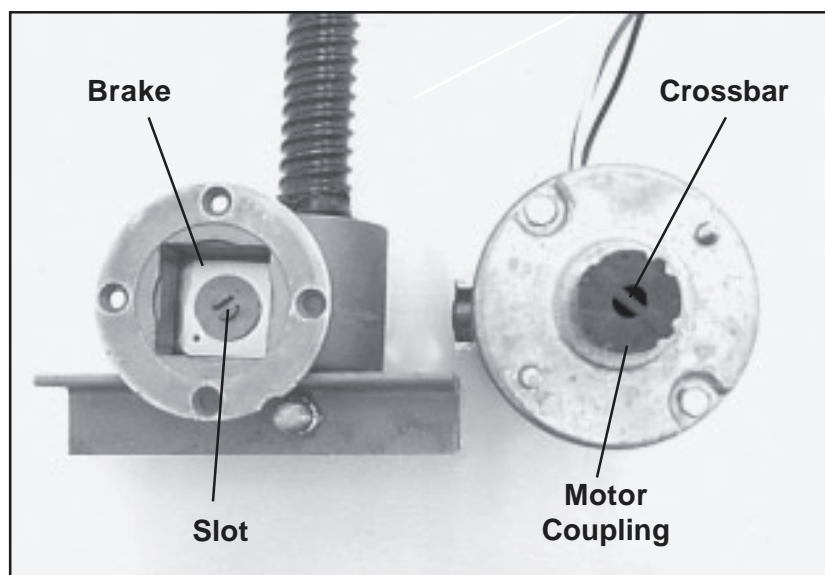

Figure 42. Motor to Gearbox Alignment
1. Align the crossbar on the motor coupling with the slot in the gearbox brake (Figure 42) and mount the new motor to the gearbox.
3. Align the crossbar on the motor coupling with the slot in the gearbox brake (Figure 42) and mount the new motor to the gearbox.